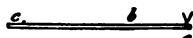

FIG. 22.
7. In Fig. 22, $ab = 1$ inch, $ac = 12$ inches, $w = 20$ pounds: required p .
8. In Fig. 22, $ab = 2$ inches, $ac = 8$ inches, b moves at the rate of 3 feet per second, at what rate does c move? $w = 3$ pounds: required p .